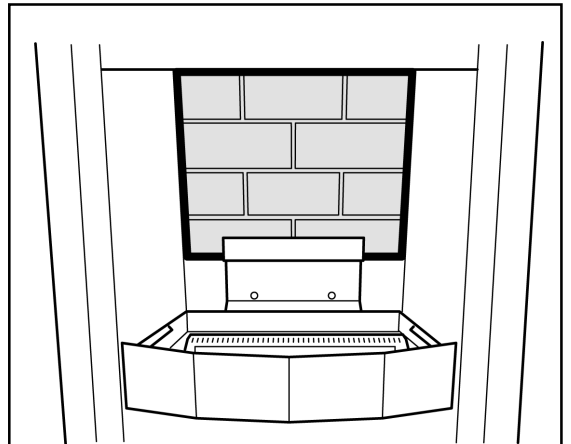

Figure 18. Ceramic Rear Wall Position
1. Fit the ceramic rear wall into the bracket at the back of the firebox .See figure 18.